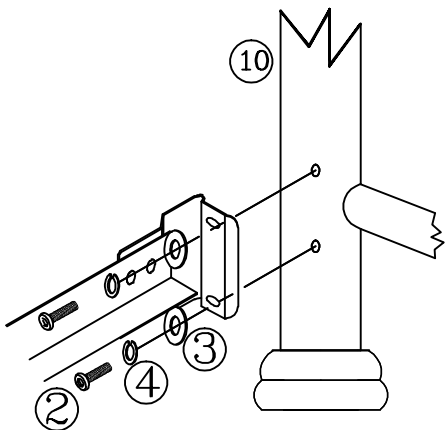

FIGURE 3
- Tighten all screws securely using the Allen wrench (6) and open wrench (7).
- Position footboard panel (10) and align holes in the post with holes in the frame bracket. (See figure 3)
- Place a lock washer (4) and a flat washer (3) over on each screw (2). Insert through bracket and into post. Hand-tighten, DO NOT TIGHTEN screws all the way.
- Tighten all screws securely using the Allen wrench (6).